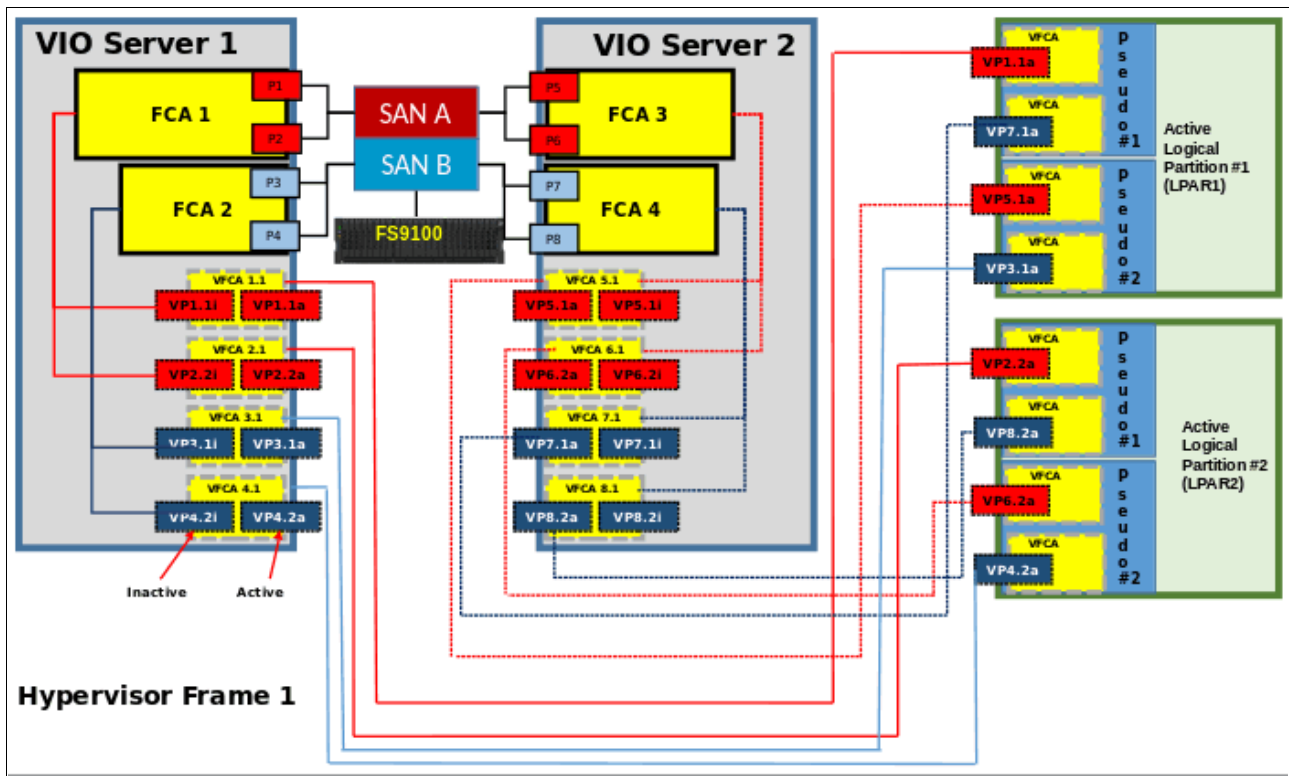

Figure 2-15 LPARs SAN connections
- ▶ Create a pseudo host in IBM Spectrum Virtualize/Storage host definitions that contain only two virtual WWPNs, one from each fabric as shown in Figure 2-15.
Figure 2-15 shows a correct SAN connection and zoning for LPARs.